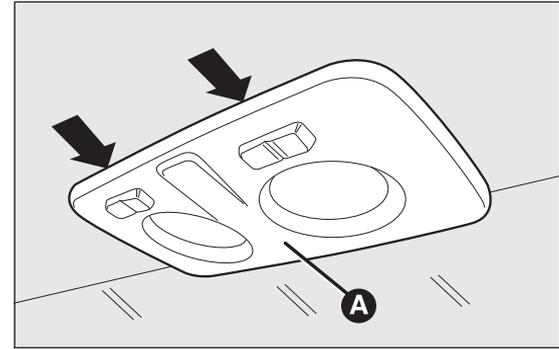
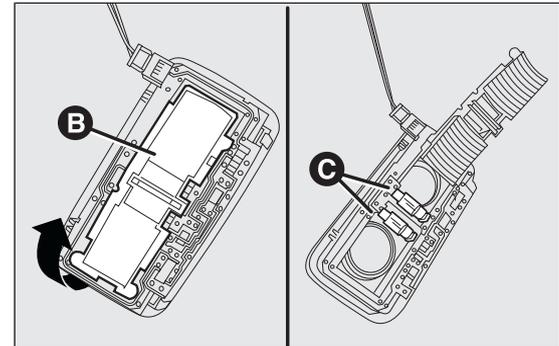

fig. 150
fig. 151
- operate in the points shown by the arrows and remove ceiling light A fig. 150;
- open the protective lid B fig. 151;
- re-close the lid B fig. 151 and secure light A fig. 150 into its housing locking it properly.